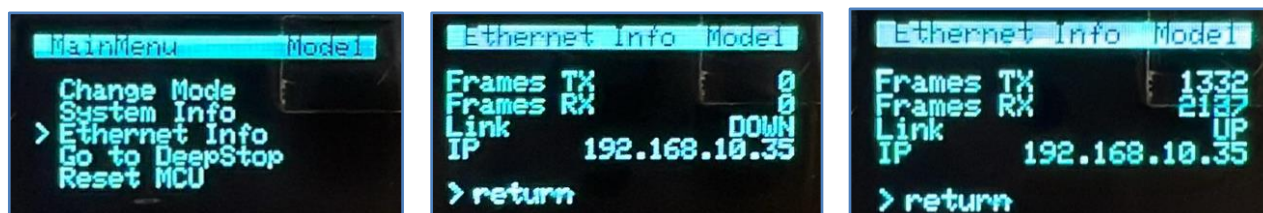

Figure 25 Ethernet Info
- Move the pointer to “Ethernet Info” and enter. If the ethernet cable is not attached to the target, then you can see the “Link” is down. On connecting the cable, with the connection established, you can see the “Link” status is UP. One can also see the IP address information assigned to the target, as can be seen here to be 192.168.10.35. To return to the previous menu, please go to “return” and press the encoder button. The following has been illustrated in the *Figure 25 Ethernet Info*.